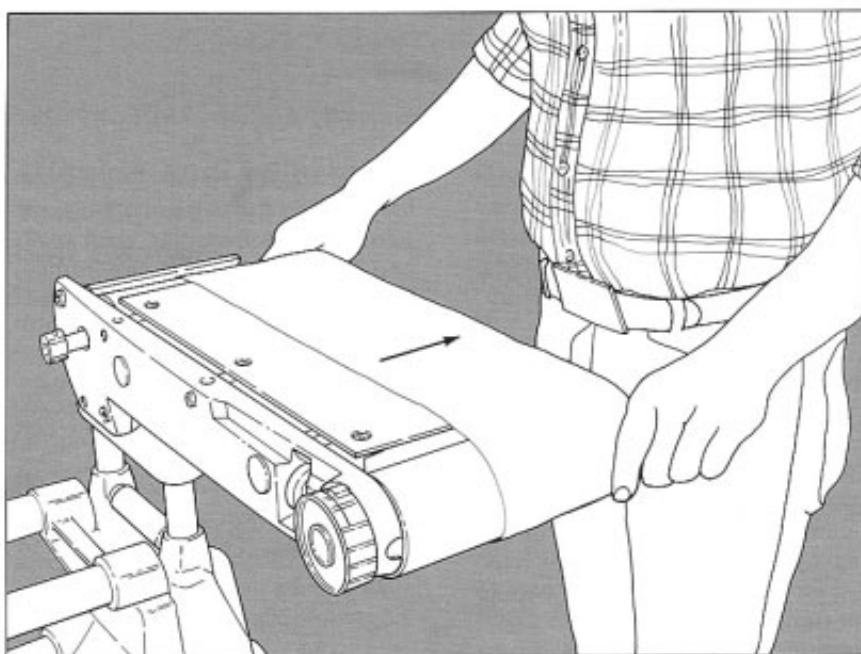

Figure 3. To remove a belt, slide it over the drums and off the right side of the belt sander.
3. Remove the old belt, sliding it over the drums and off the right side of the machine. (See Figure 3.)